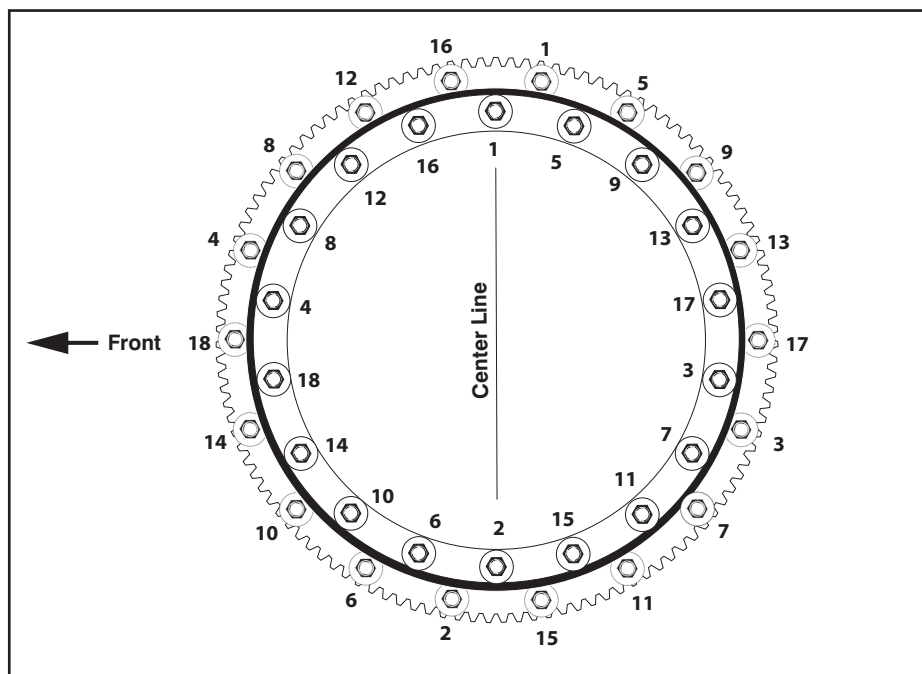

Figure 3-64. Swing Bearing Torque Sequence
2. Refer to Torque Sequence diagram as shown in Figure 3-64., Swing Bearing Torque Sequence. Clean residue off new bearing bolts and apply a light coating of JLG Threadlocker P/N 0100019 and install bolts and washers through frame and outer bearing race. Torque bolts to 190 ft-lb (258 Nm). Remove lifting equipment from bearing.
6. Following Torque Sequence diagram shown in Figure 3-64., Swing Bearing Torque Sequence, torque bolts to 190 ft-lb (258 Nm) w/Loctite.
3. See Figure 3-64. Swing Bearing Torque Sequence.